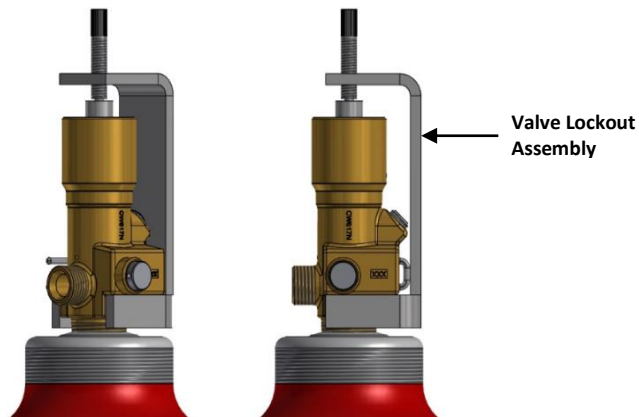

Figure 4.3.2-1 IG-100 Container with Valve Lockout Assembly Installed
Step 19: Fit the valve lockout assembly onto the valve (Figure 4.3.2-1) prior to removing the filling hose.